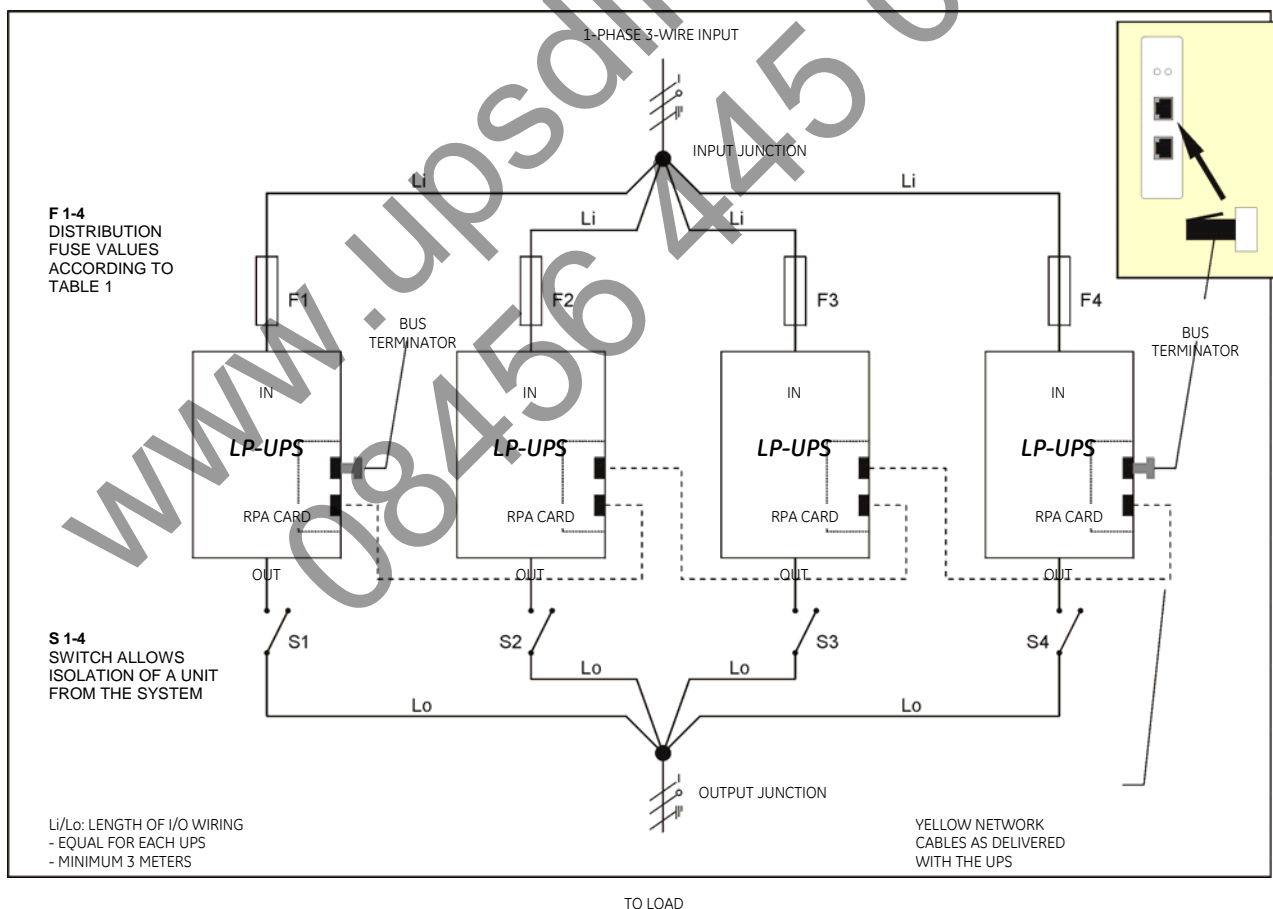

Figure 10. Installation of parallel operating LP 11 UPSs
2. All outputs must be connected together, supplying the load. It is advised to install switches (S 1-4, fig. 10) in the output wiring, in order to be able to isolate a unit from the remaining system for service and maintenance purposes. It is advised to make a Neutral-to-Ground bonding in the output junction.
4. The length of all input cables from the input junction (Li, fig. 10) to the UPS inputs should be equal. The same applies to the cables from the outputs to the output junction (Lo, fig. 10). The minimum length of the input as well as the output cables is 3 meters.
7. Interconnect the RPA-cards of the units, using the network cable that came with the UPS. See figure 10 (dotted line). Only use the cables that were delivered with the UPSs! Of the first and the last UPS in the system only one RPA-socket is used to interconnect the UPSs. A bus terminator must be placed in the other (free) RPA-socket. The required bus terminators have been delivered with the unit.
2. Remove the installation fuse from the input of that UPS (F1-4 in figure 10),
3. Separate the output of the UPS from the output junction (S1-4 in figure 10).